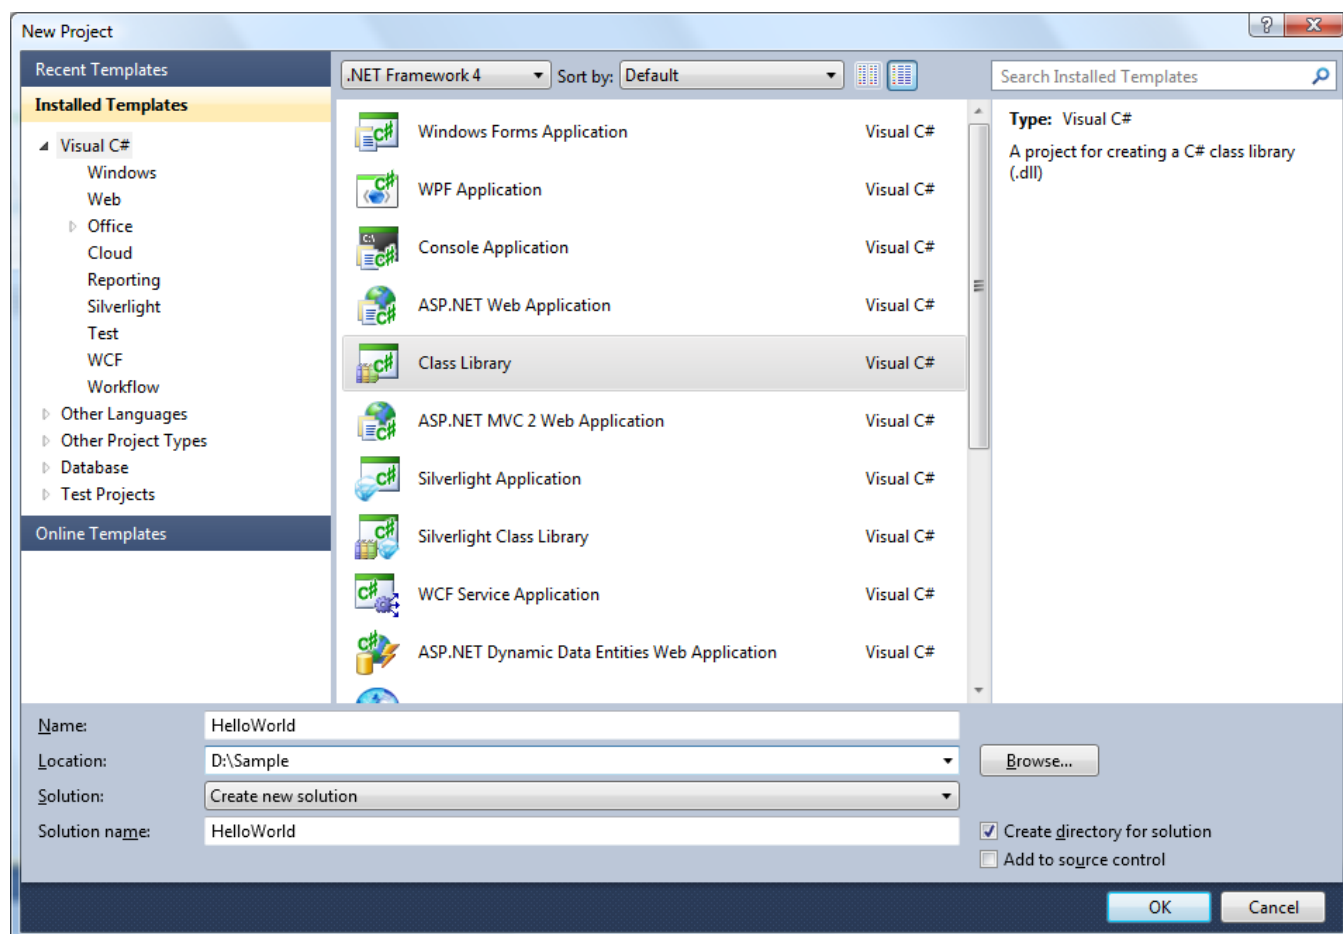

Figure 1: Add New Project
3. In the right-hand frame, click Class Library (see Figure 1: Add New Project below). This walkthrough assumes that the project location is: D:\Sample.